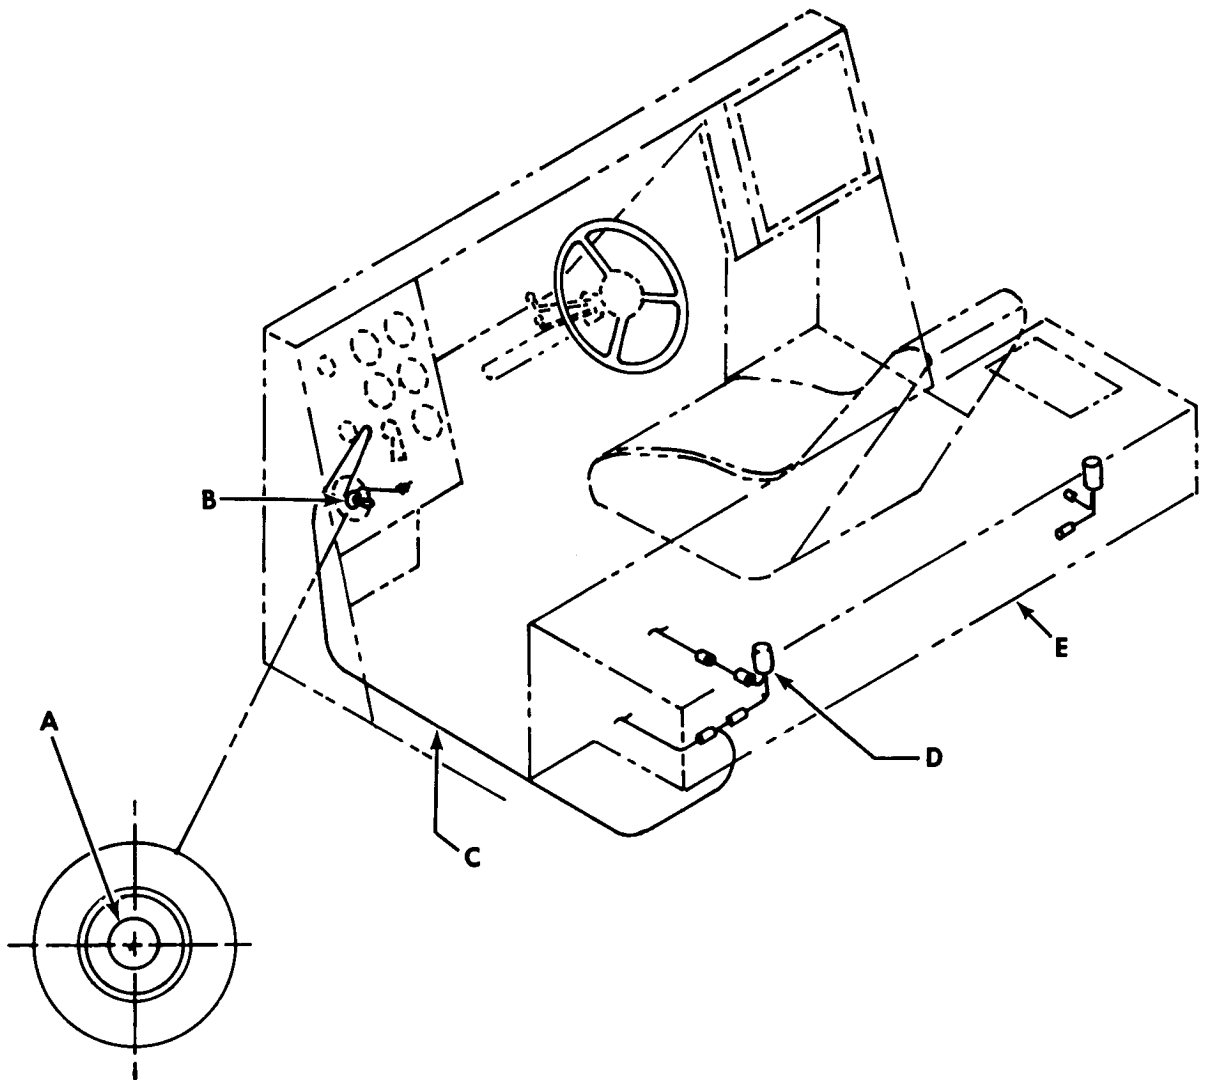

Figure 2.
3. Install 1501478 Toggle Switch on left hand instrument panel as shown in Figure 2.